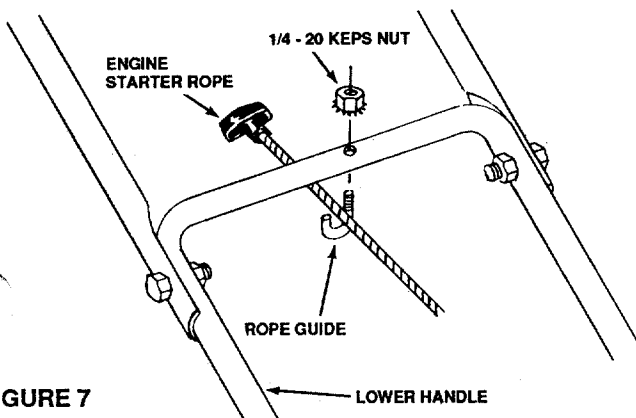

FIGURE 7
1. Attach starter rope to lower handle with supplied rope guide (J-bolt) and 1/4-20 hex keps lock nut as shown See Figure 7. NOTE: If additional rope is required to complete assembly, pull back engine control bail lever on upper handle and hold while slowly pulling additional rope out of engine as needed. Place rope guide around starter rope and through lower handle. Tighten securely with lock nut.